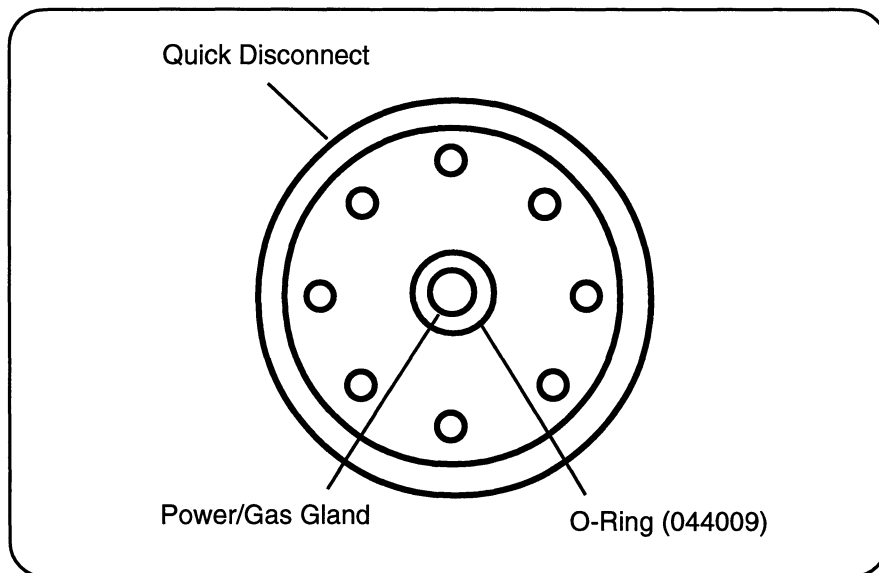

Figure 5-5 Quick Disconnect O-Ring Removal and Replacement
The quick disconnect O-ring (044009) on the torch leads is required to provide a tight seal between the quick disconnect and receptacle on the power supply, so that the plasma gas does not leak during cutting. To remove and replace the O-ring in the event of damage or wear, proceed as follows and refer to Figure 5-5.
1. **Set the MAX43 power switch to OFF (O), unplug the power cable, and disconnect the gas supply.**
3. Remove the O-ring from the quick disconnect as shown on Figure 5-5 using needle nose pliers, tweezers, etc.